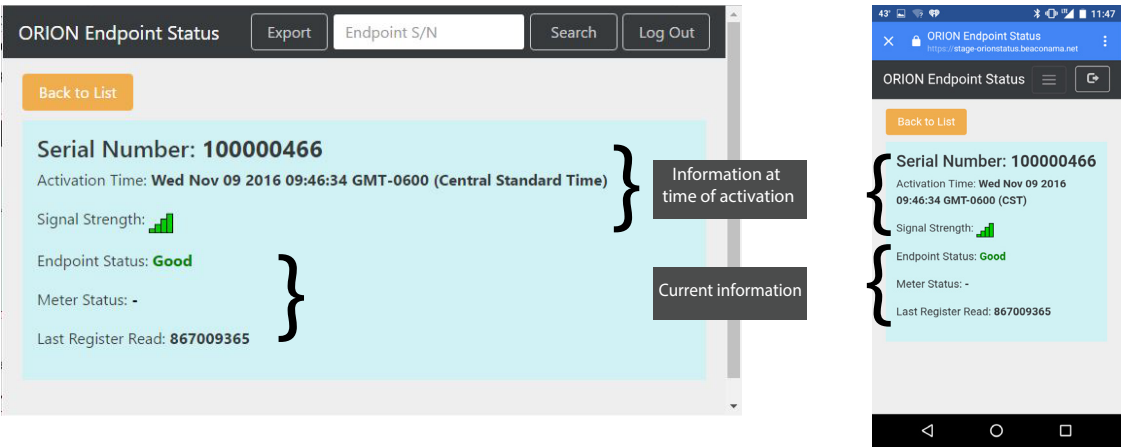

Figure 58: Status detail screen - computer and mobile
5. Select an endpoint in the list to see the endpoint raw read. A window opens, like the examples shown in Figure 58.